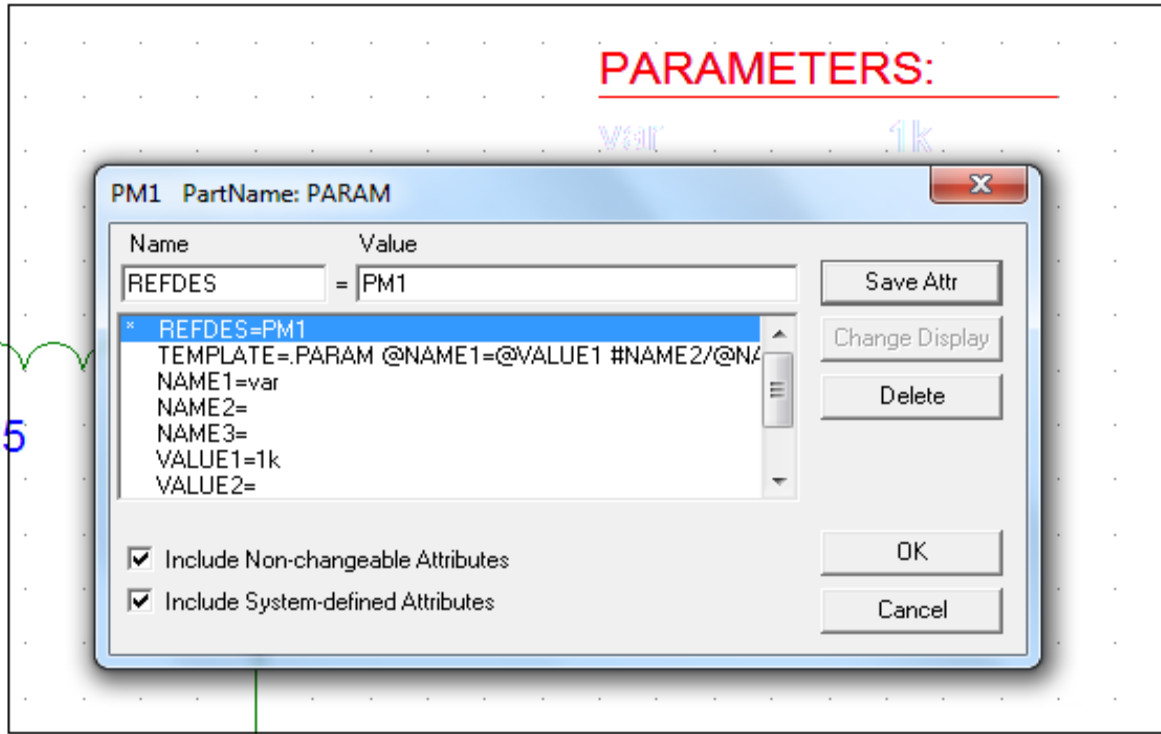

Fig 5.3: Parameters window.
- 3- Double click on parameters the following window will appear, type **var** under NAME1 and 4k for VALUE1 field (Fig 5.3), and then press OK.